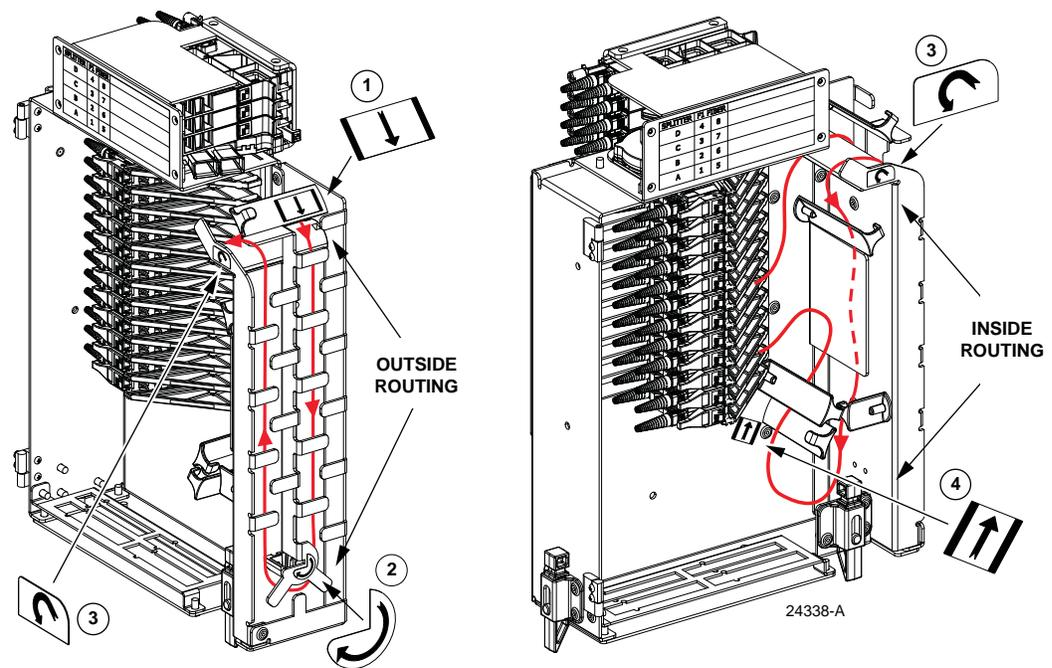

Figure 63. Patch Cord Routing
10. Route the patch cord through the fiber guideways on the outside and inside of the swing frame as shown in Figure 63. Labels are provided that show the fiber routing.